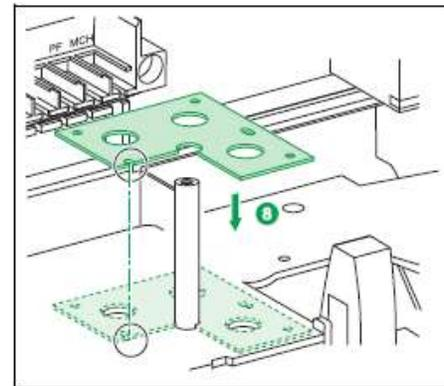

Fig. 1
In 2005, a shock absorber vibration pad was introduced to improve resistance to very heavy vibrations and shocks for the Evolis Undervoltage Release (MN coil). To cater for the extra thickness of the vibration pad (refer Fig. 1), a “longer pin” MN coil was also introduced. Refer vibration pad (item 8) in diagram on the right.